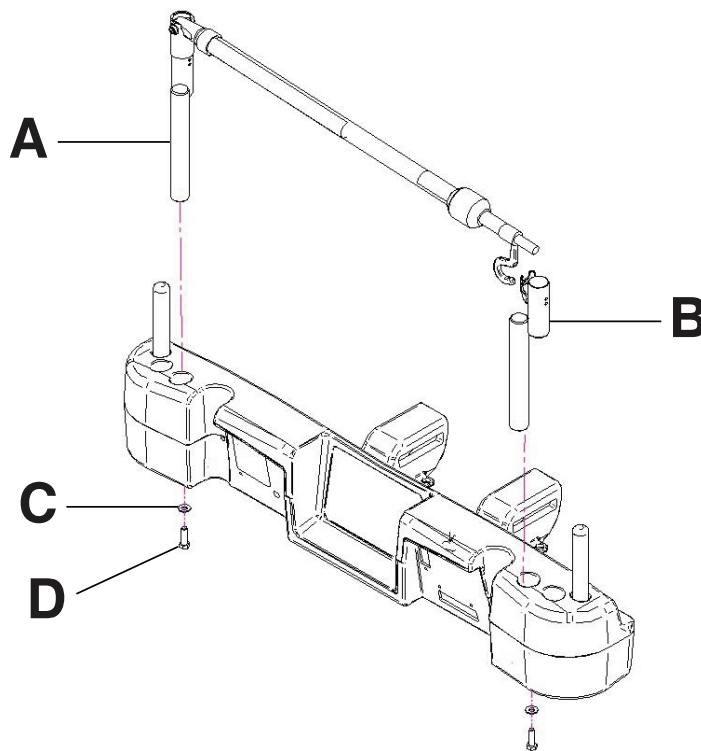

Figure 119: Single two stage IV pole (Left side shown)
1. Using a 3/8 in. drive ratchet and a 1/2 in. socket, install one washer (C) and one bolt (D) to secure the IV pole into the socket at the head end of the product (A) (Figure 119 on page 106).
2. Using a 3/8 in. drive ratchet and a 1/2 in. socket, install one washer (C) and one bolt (D) to secure the IV pole support into the socket at the head end of the product (B) (Figure 119 on page 106).